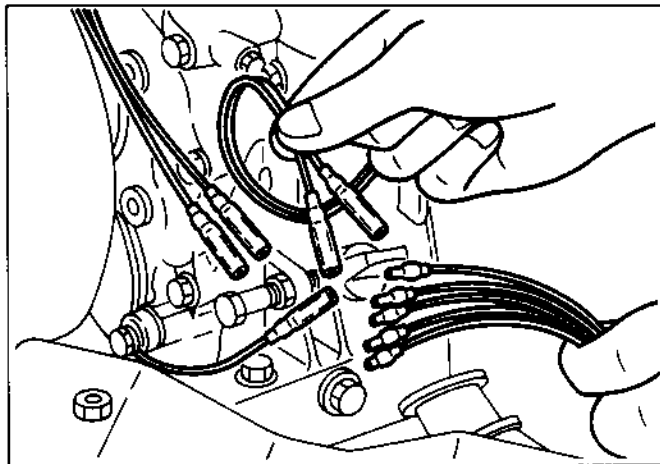

Fig. 10-45
- (6) Connect the light green and the pink leads of the control box to the starting motor. Connect the pink lead to the terminal of the motor and attach the light green lead together with the BATTERY CABLE (+) to the 6 mm bolt of the motor.
- (7) Clamp the wires of starting motor and oil sensor at the rear panel of control box, main bearing cover and front cover. (See Fig. 10-45.)